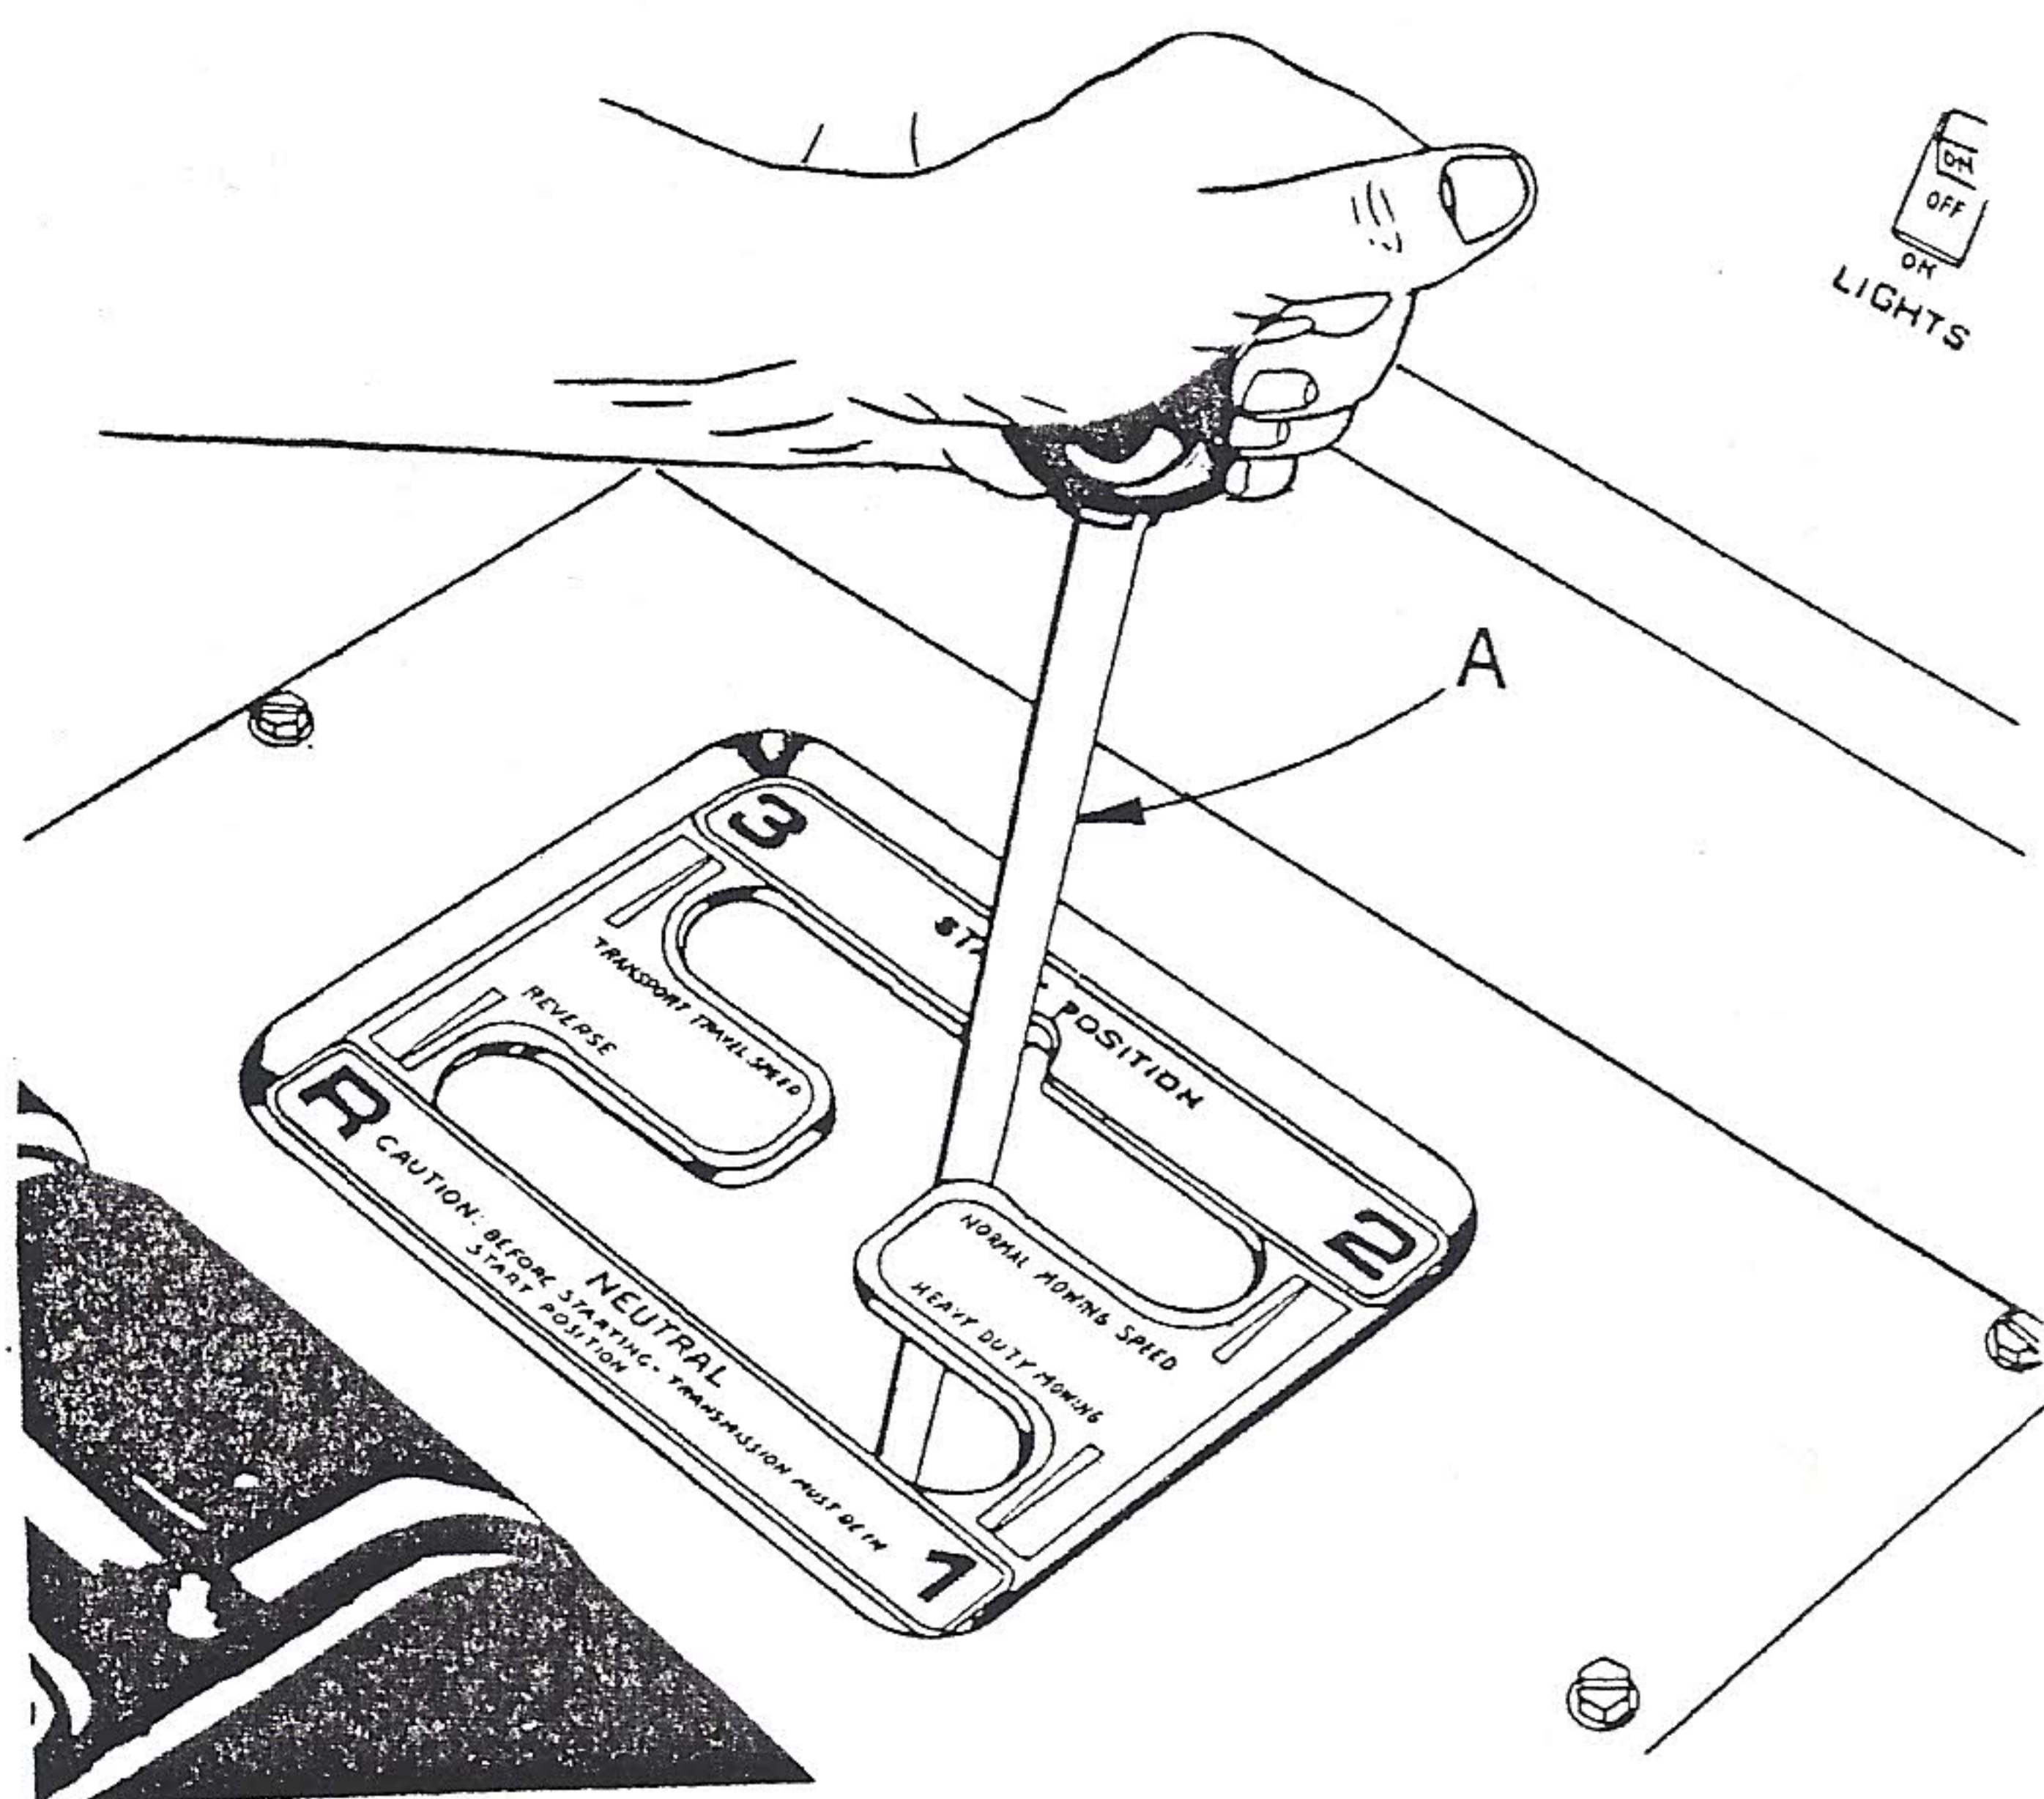
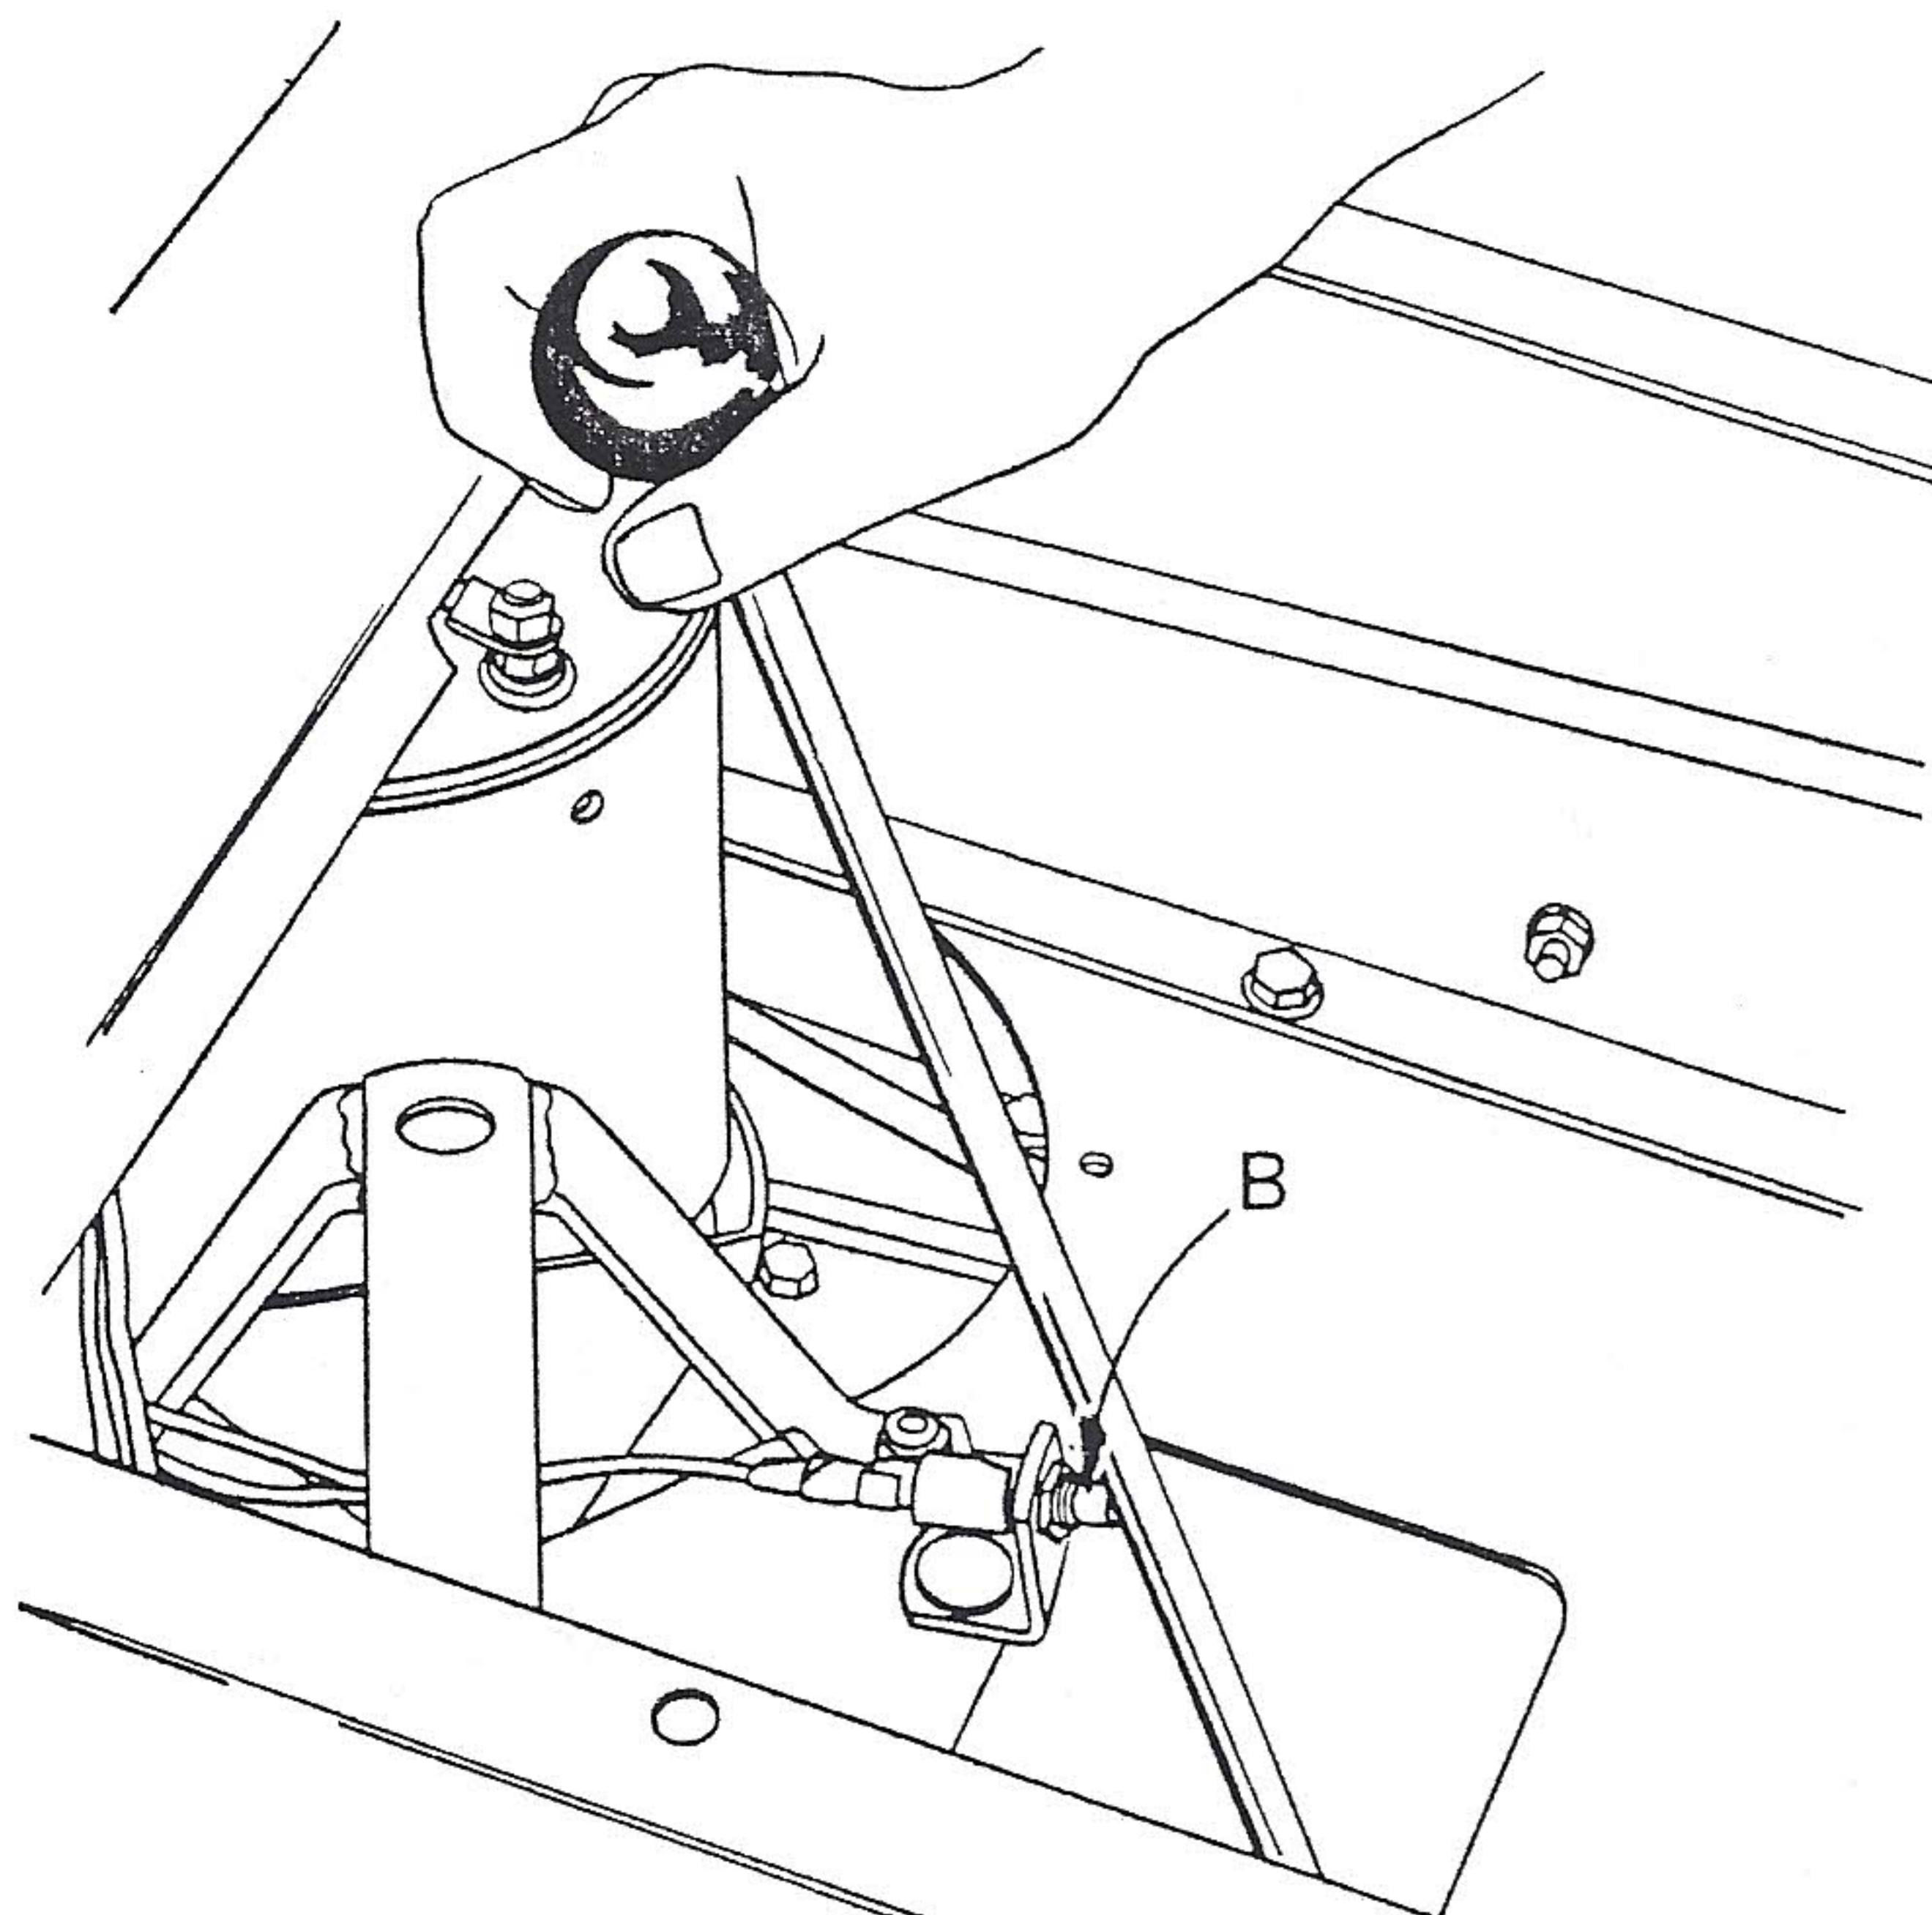

FIG. 22
FIG. 23
- Your tractor is equipped with a neutral safety switch (B, Fig. 23). The gear shift lever (A, Fig. 22) must be in the "start position" (held in notched area), before motor will start.